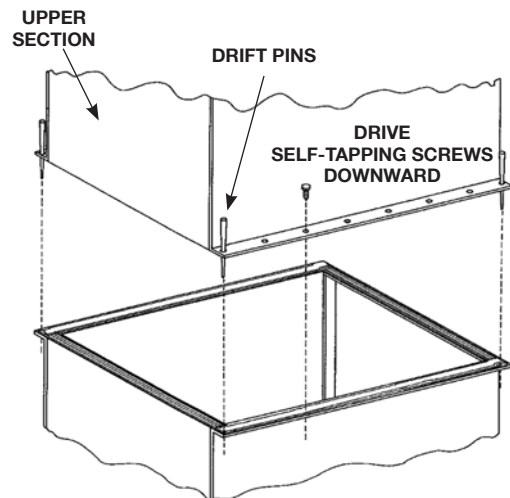

Figure 19 – Mating fan/coil section to basin section
Lower the fan/coil section to within several centimeters of the basin vertical posts, making sure the two sections do not touch and the sealer is not disturbed. Place drift pins (see Figure 19) in at least (3) of the corner mounting holes and gradually lower the fan/coil section into place using the drift pins to guide the section down accurately onto the mating vertical posts. Place washers, nuts and bolts in all four corner bolt holes. Then continue to install the rest of the washers, nuts and bolts on the remaining vertical posts.